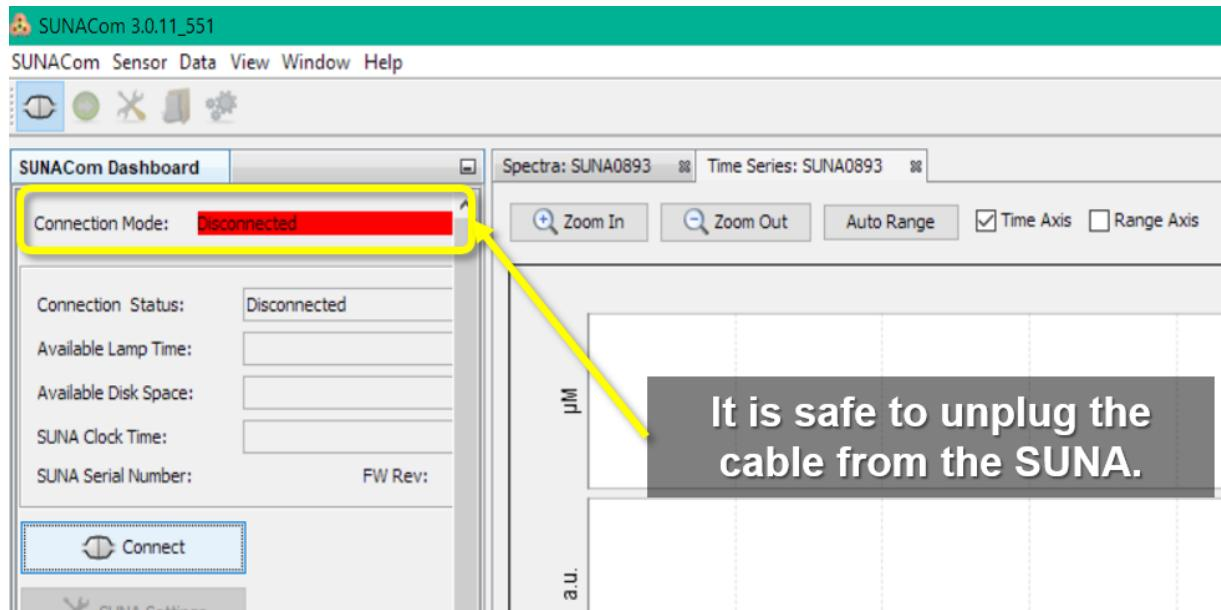

Figure 117. Safe to Unplug Cable from SUNA
18. When the SUNACOM software displays the Connection Mode as red, you can safely unplug the cable from the SUNA instrument (see Figure 117).